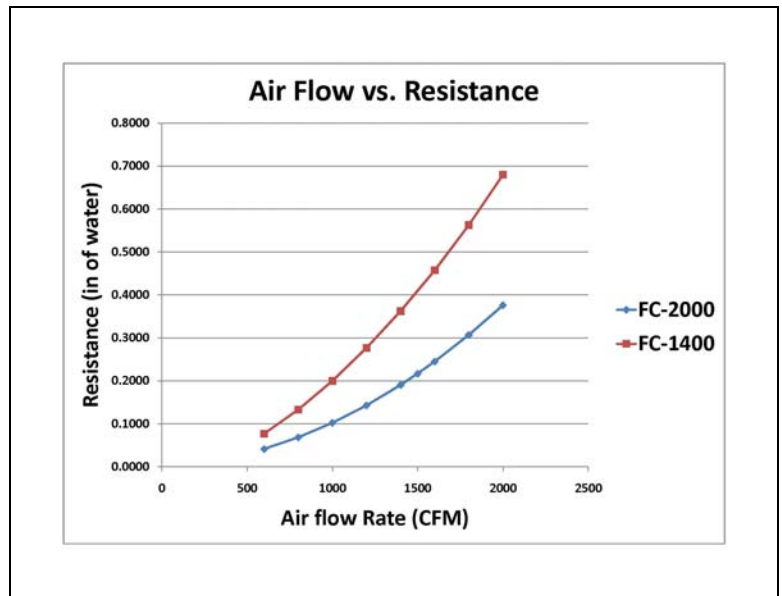

Figure 6
2. The filter access panel **MUST** be installed where there is at least twenty-six (26) inches in front of it. This allows clearance for the replacement of the media filter.
4. Check the flow capacity and pressure drop (Figure 6) to determine the filter is properly sized.
Note: "AIR FLOW" directional arrow, located on existing media filter (Figure 6).